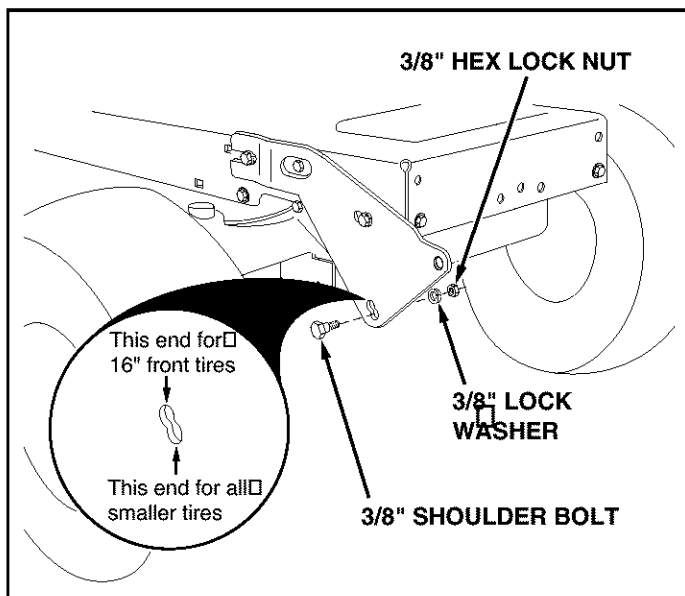

FIGURE 6
- Assemble a shoulder bolt, a 3/8" lock washer and a 3/8" hex lock nut to the bottom hole in each side plate. See figure 6.